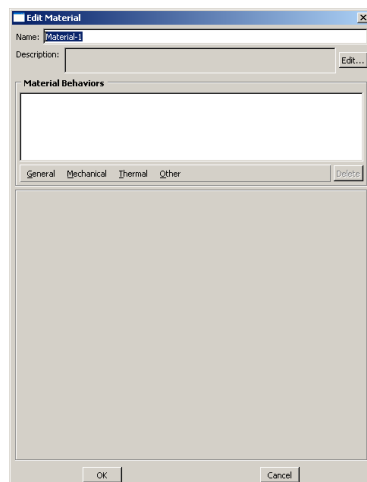
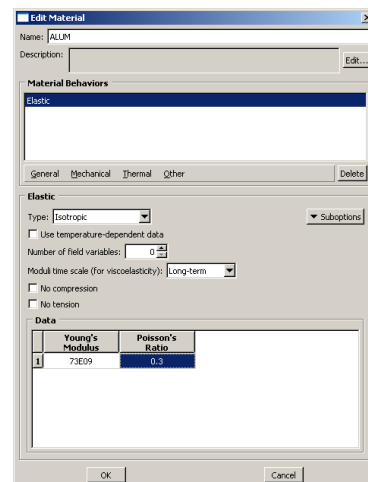

Figure 6a. Edit Material Dialog Box
Figure 6b. Edit Material Dialog Box (ALUM)
- To define material properties for this model, double click on **Materials** in the model tree and the **Edit Material** dialog box will appear (Figure 6a). Enter a **Name:** for the material (ALUM), and click the **Mechanical** tab, highlight **Elasticity** and click **Elastic**. Enter values of **Young's Modulus** = 73E09 Pa, and **Poisson's Ratio** = 0.3. After the material properties have been entered, the **Edit Material** dialog box should look identical to Figure 6b.